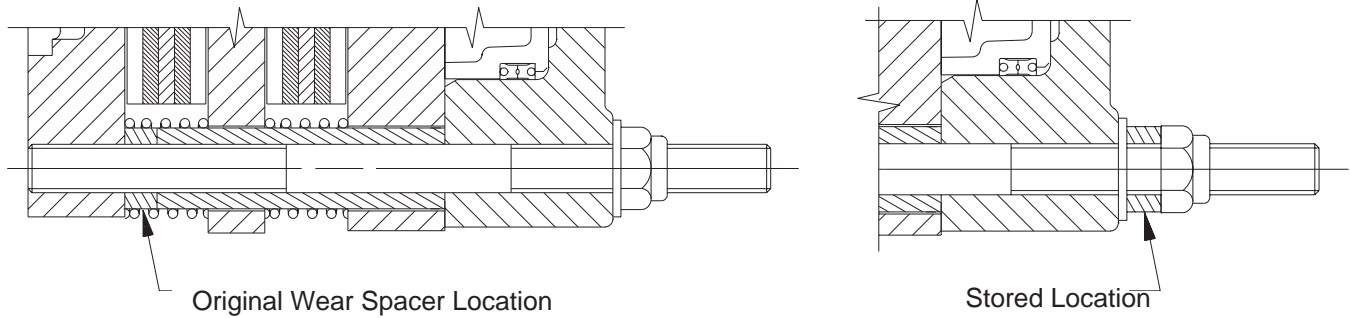

Fig. 9
- 4.2.8 Re-install the clamp tubes over the studs. The unused wear spacers are stored under the locknuts (18) for re-use after replacing the friction discs. See Figure 9.
“stored” under the locknuts for use after replacing friction discs. See Figure 9.